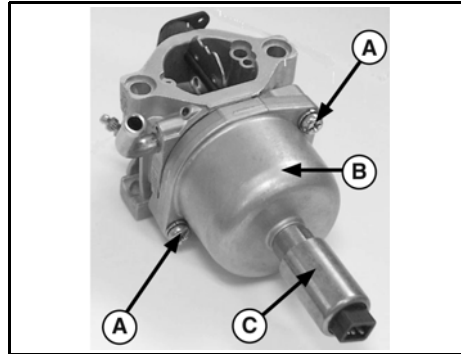

Figure 56
1. Remove fuel bowl screws (A, Figure 56). Remove the fuel bowl (B) from the carburetor body.